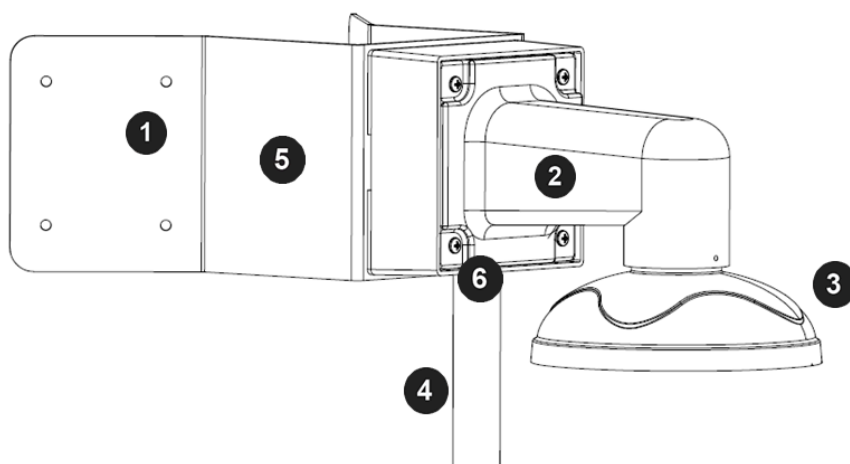

Figure 2: Attach corner mount adapter to exterior corner wall
6. Attach the Wall Mount Adapter (AV-WMJB) to the Corner Mount Adapter (AV-CRMA) as shown in Figure 2.